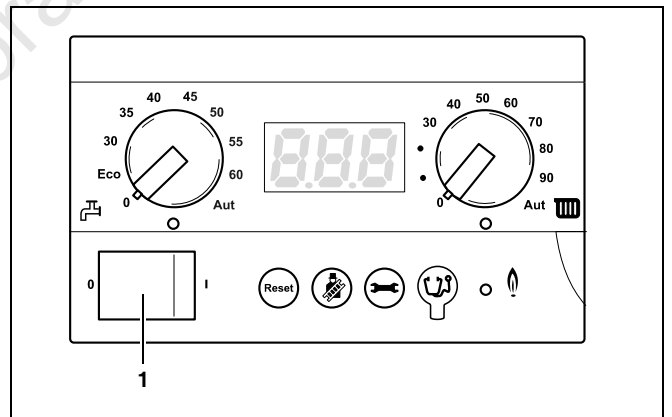

fig. 21 BC10 basic controller
- Switch off the heating system by pressing the mains switch of the BC 10 (fig. 21, **item 1**).
- Switch off the heating system by pressing the mains switch of the BC10 (fig. 21).
- Leave the mains switch on the BC 10 (fig. 21) in position "1".